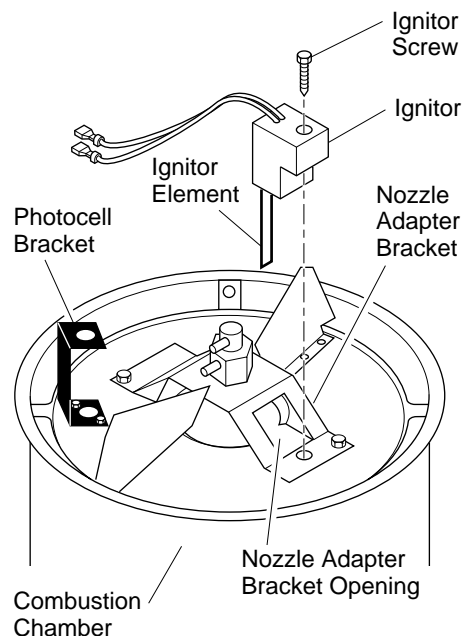

Figure 10 - Ignitor Replacement
6. Remove combustion chamber. Stand combustion chamber on end with nozzle adapter bracket on top (see Figure 10).
9. Carefully guide ignitor into opening in nozzle adapter bracket. Do not strike ignitor element. Attach ignitor to nozzle adapter bracket with screw using a 1/4" nut driver (see Figure 10). Torque 10 to 20 in. lbs. Do not over torque.